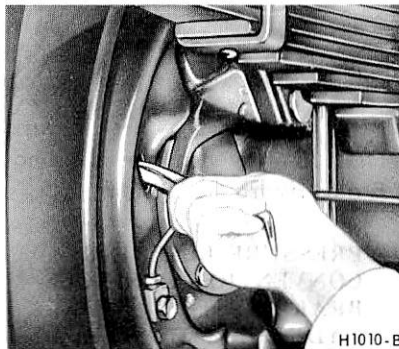

FIG. 12—Two-Cylinder Brake (Rear) Shoe Adjustment
1. Remove the adjusting slot covers from the backing plate (Fig. 12).